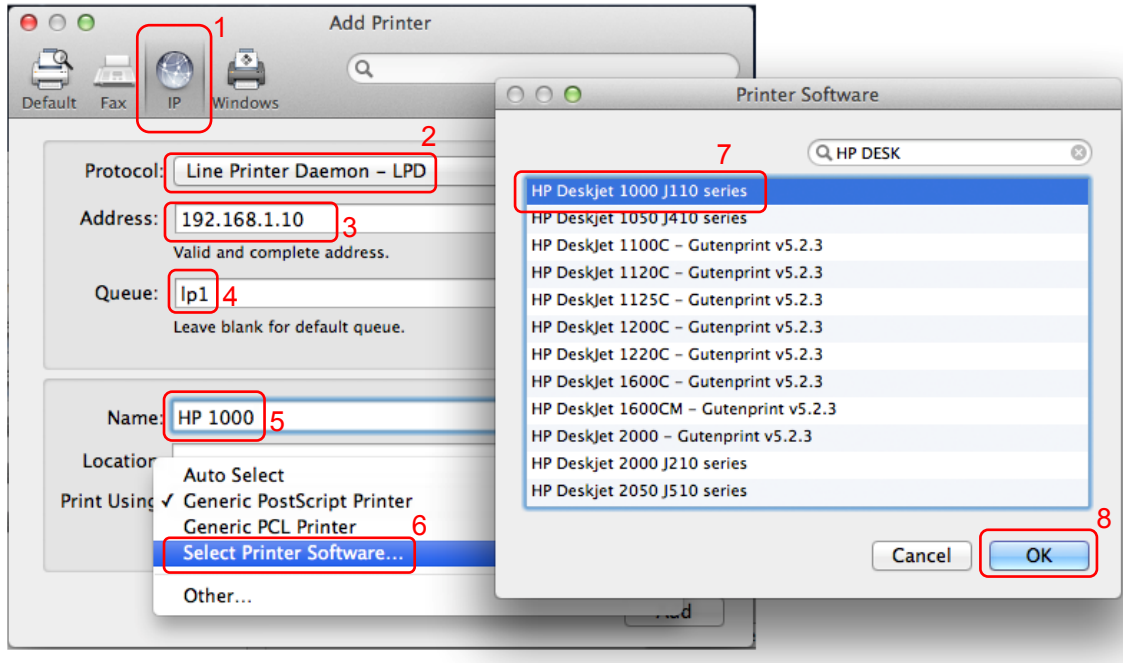
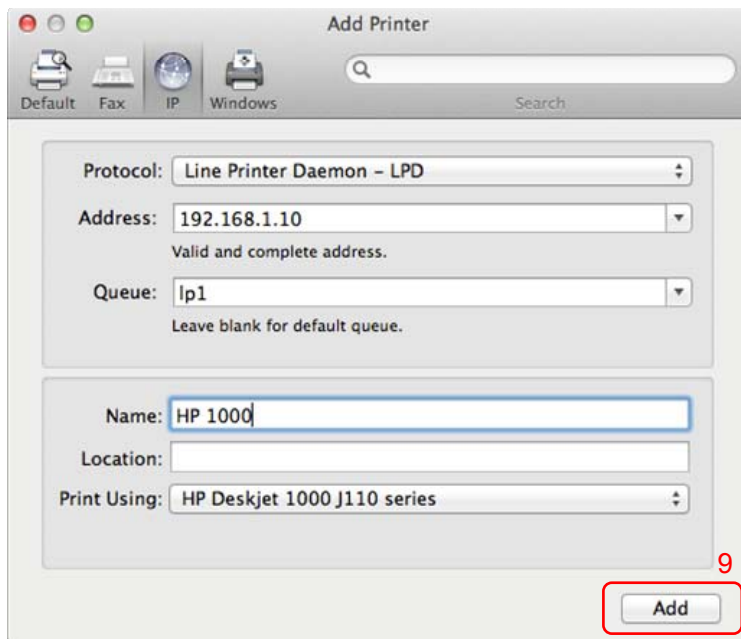

Figure 3-51
Figure 3-52
3. Select **"IP"**, and then configure the following parameters as shown in Figure 3-51 and Figure 3-52. Select **"Line Printer Daemon - LPD"** for Protocol and enter the print server's IP **192.168.1.10** for Address and **lp1** for Queue. Give a name to your printer. For Print Using, go to **"Select Printer Software..."** and select your printer model from the list. Here takes HP Deskjet 1000 J110 series for example. And then click **Add**.